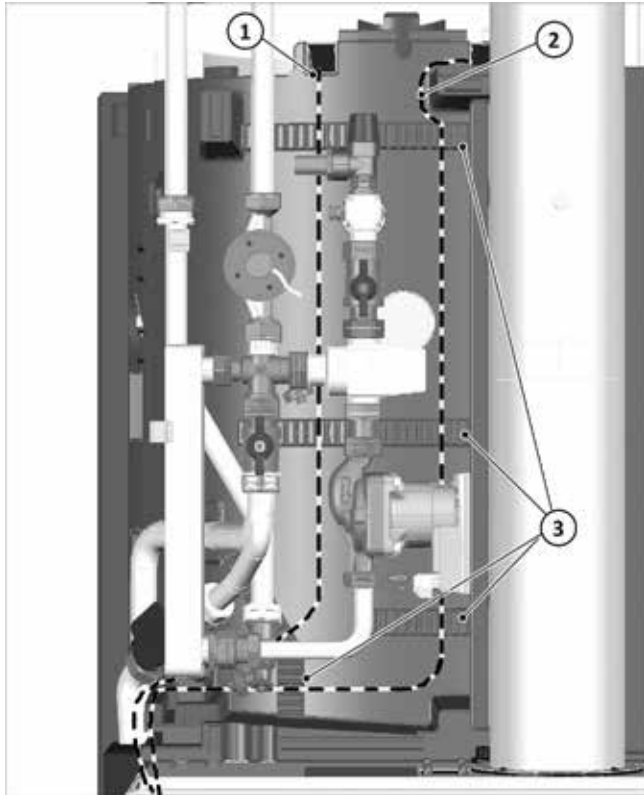

Fig. 13: Cable routing through the hot water station insulation
2. In the same way as a control/signal extension cable, pull the mains extension cable through the WWS area, fasten it and route it to the mains module housing using a loop (see → fig. 13 (2)).